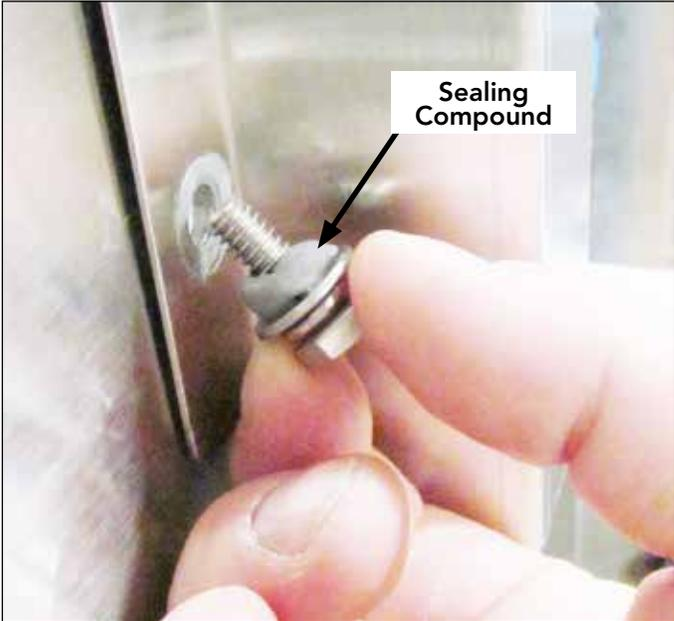

Fig. 5
- 6. Apply a small bead of sealing compound to the (4) fasteners saved in step 4. Secure the guide cover end of the splash shield to the machine (Fig. 5).